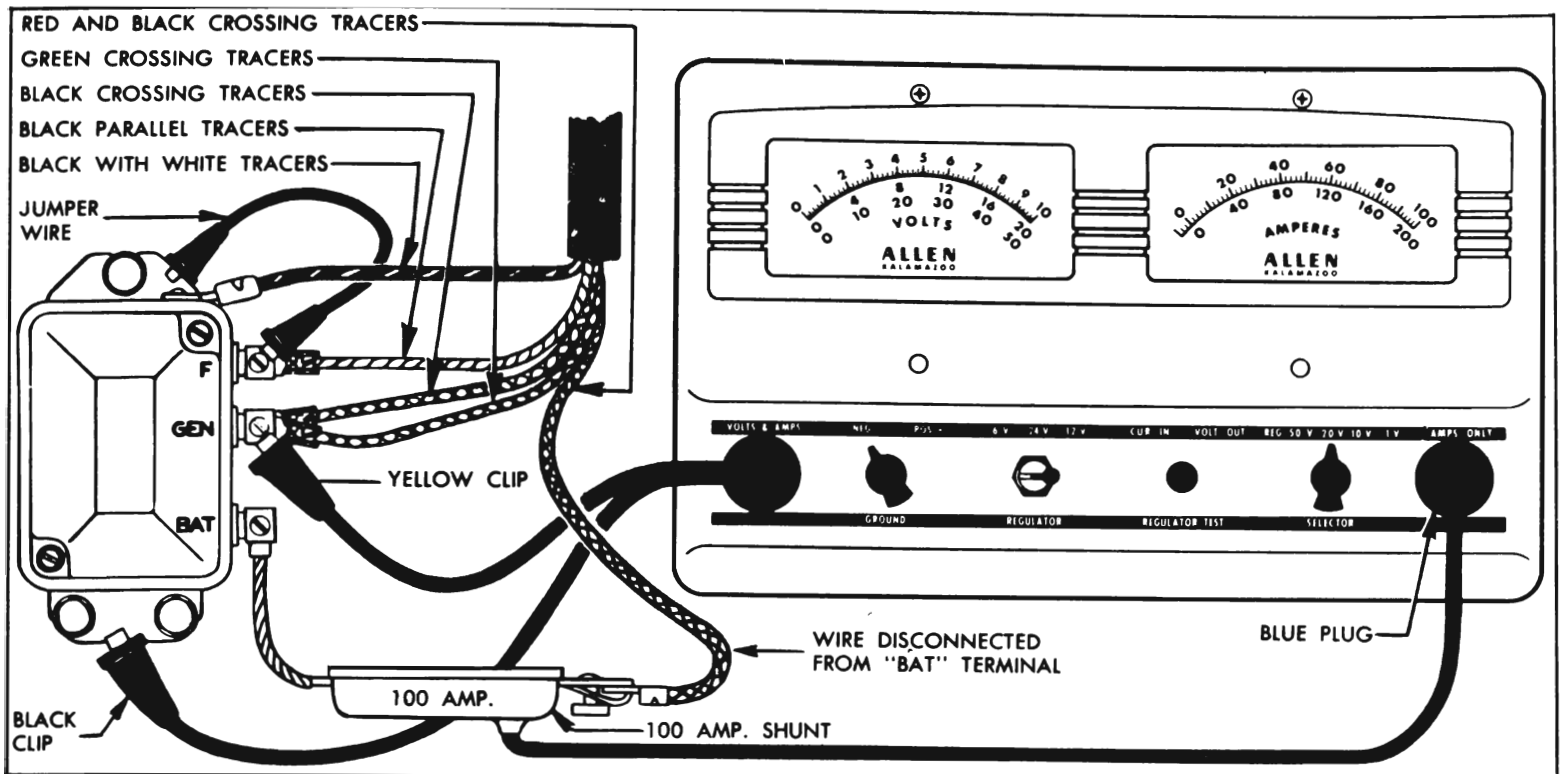

Figure 10-17—Cutout Relay Test Connections—Allen Tester
3. Disconnect wire from regulator terminal marked "BAT" and attach flexible lead of 100 AMP. SHUNT to the "BAT" terminal of regulator. Attach the disconnected battery wire to opposite end of the SHUNT. See figure 10-17.
4. Insert RED plug of voltmeter lead into "VOLTS & AMPS" socket of tester, connect YELLOW clip of lead to regulator terminal marked "GEN", and connect BLACK clip to ground on base plate of regulator. See figure 10-17.
shown in figure 10-17, but do not connect the jumper wire nor the voltmeter lead (yellow and black clips).